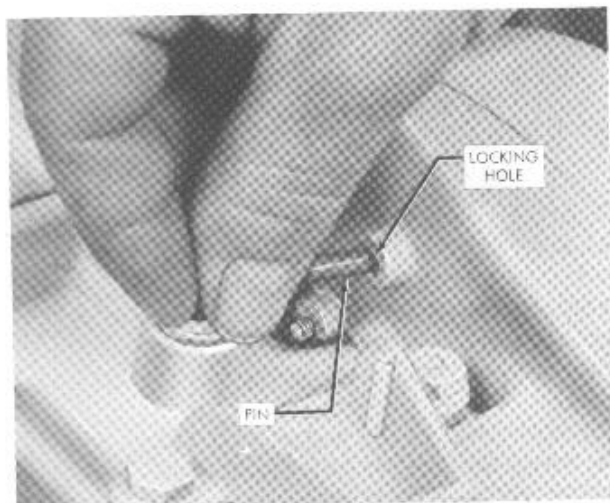
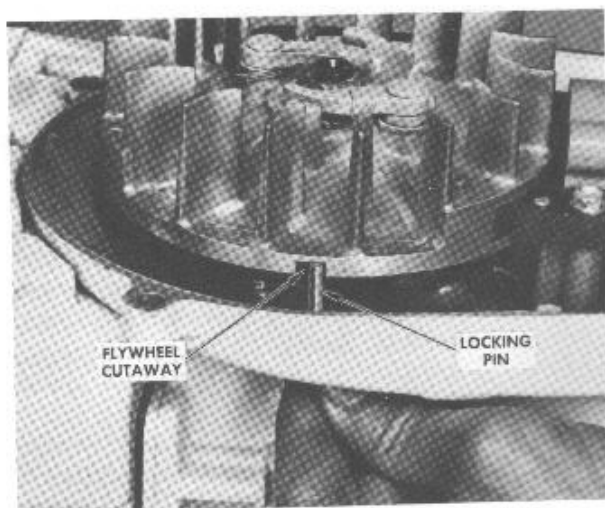

Figure 2. Locking Flywheel
Figure 3. Locking Pin Cutout in Flywheel
1. Remove the clutch guard by removing the nuts for the bar mounting bolts. Lock the flywheel by inserting a pin through the locking hole beneath the crankcase (figure 2). Turn the crankshaft until you can slide the pin into the locking recess on the flywheel. Figure 3 shows how the pin fits into the flywheel. Remove the clutch by turning the clutch rotor nut (clockwise), or the clutch retaining nut (counterclockwise). Remove the sprocket and drum assembly and the sprocket washer.